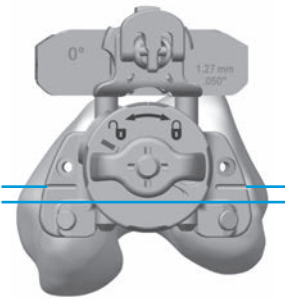

Fig. 8a
- Set the orientation of the Adjustable Valgus Guide by placing it against the most prominent distal condyle and rotating it about the IM Rod so that the engraved lines are aligned with the epicondylar axis (Fig. 8a).